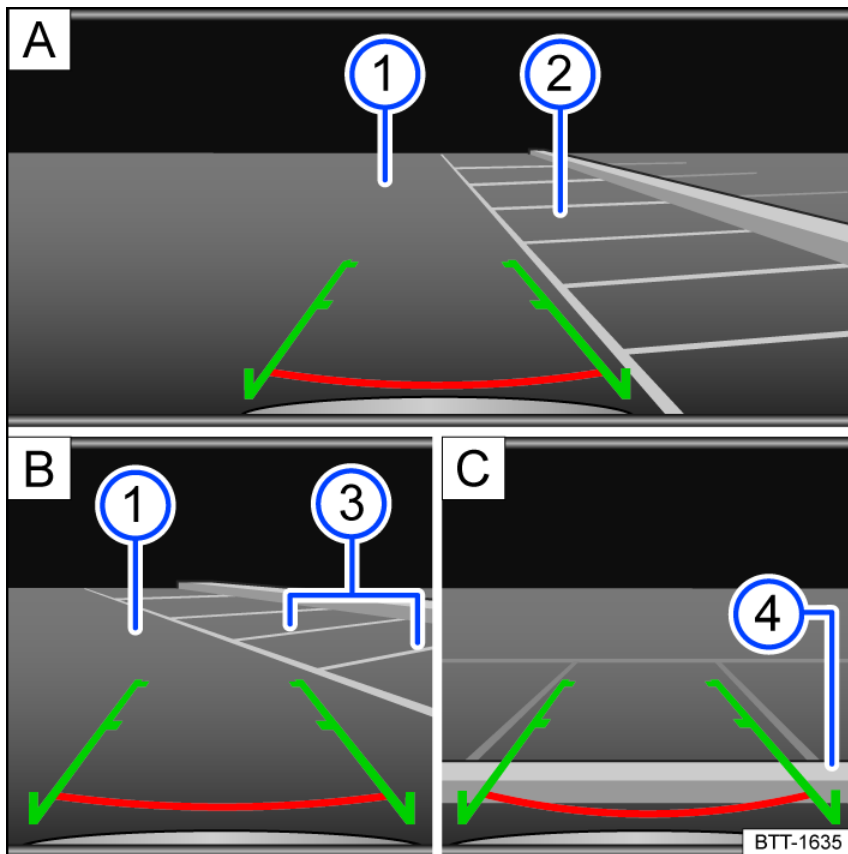

Fig. 150 Infotainment system: Parking with the Rear View Camera system.
1. Position your vehicle in front of the parking space *fig. 150* A 2.
3. Slowly reverse while steering so that the green side lines line up with the selected parking space. The green lines must line up with the side boundaries of your parking space *fig. 150* B 3.
4. Stop when the red horizontal line reaches the rear boundary *fig. 150* C 4.